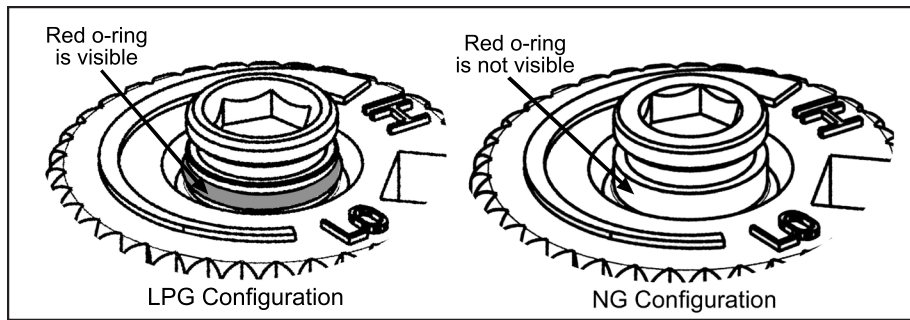

Figure 13: O-ring on valve screw.
- f) Verify that if the conversion is from NG to LPG, the screw must be re-assembled with the red o-ring visible (refer to Figure 13). If the conversion is from LPG to NG, the red o-ring of the screw must be not visible.